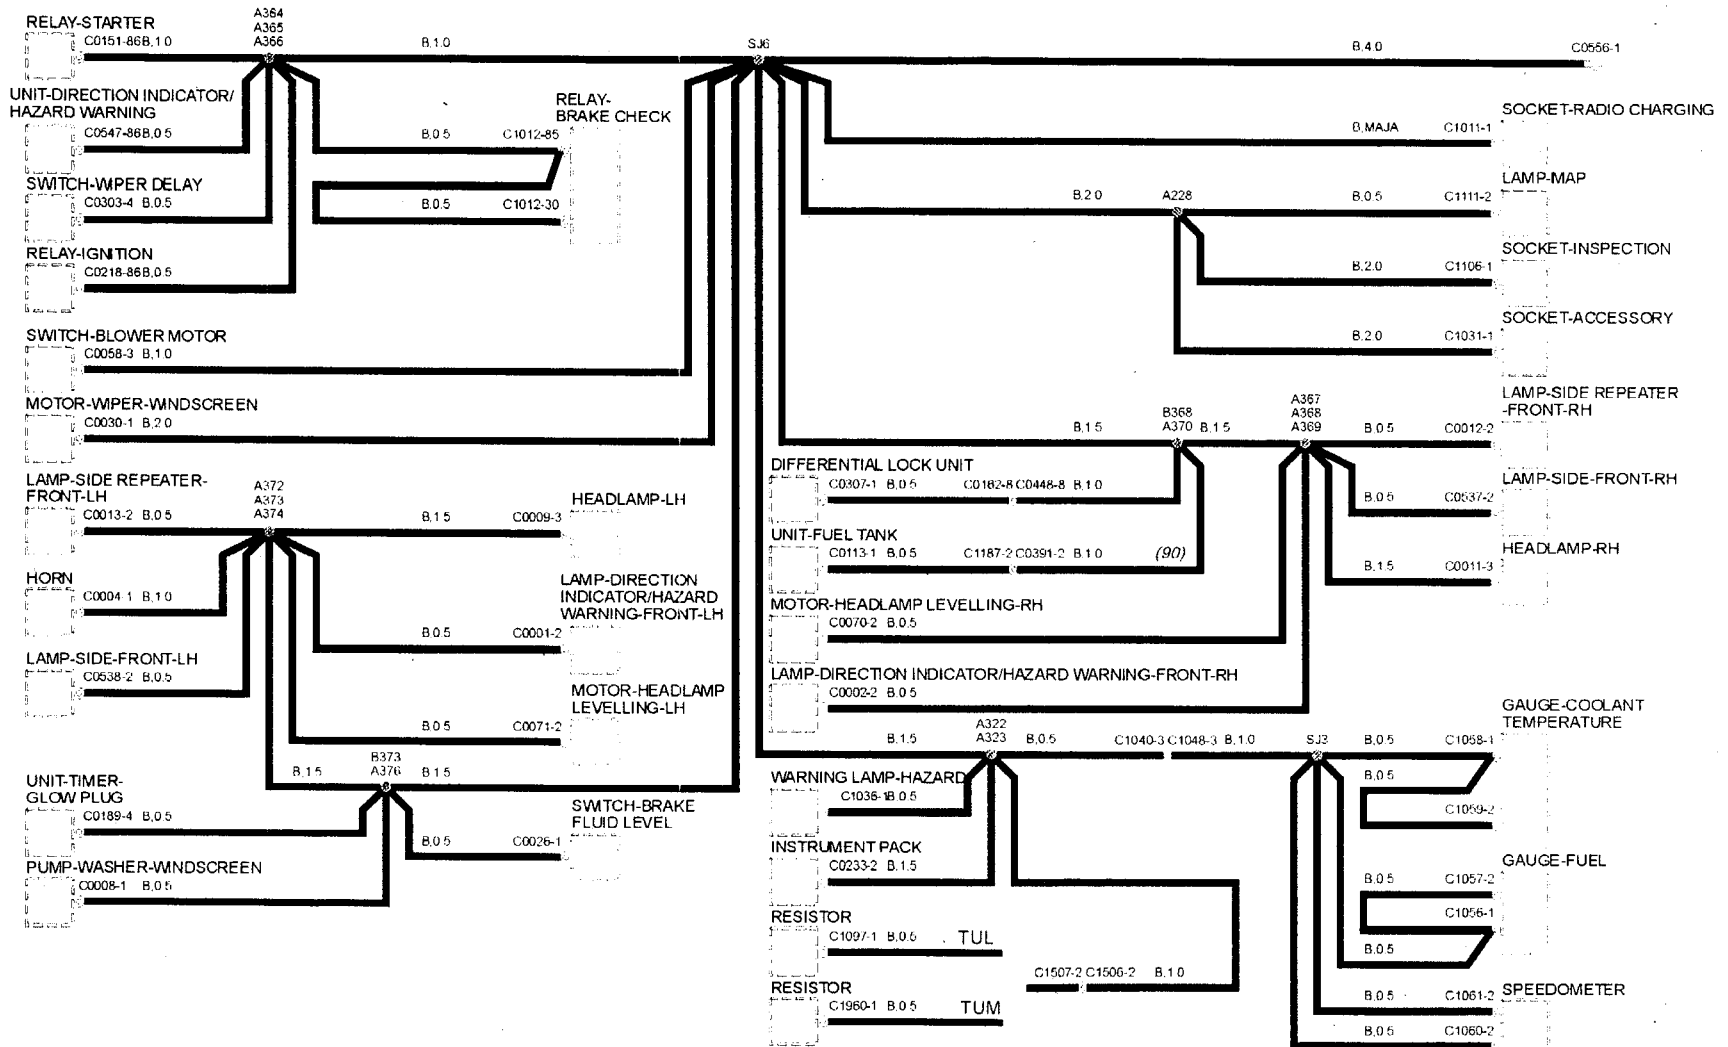

Fig 11 Earth distribution I - Non EEGR
20 Fusible links (refer to Fig 11 (A)) and current fuses (B ), are identified as shown. The direction of the arrow in a diode symbol (C) indicates the direction of flow. The Zener diode (D) prevents current flow until a precise voltage is reached.